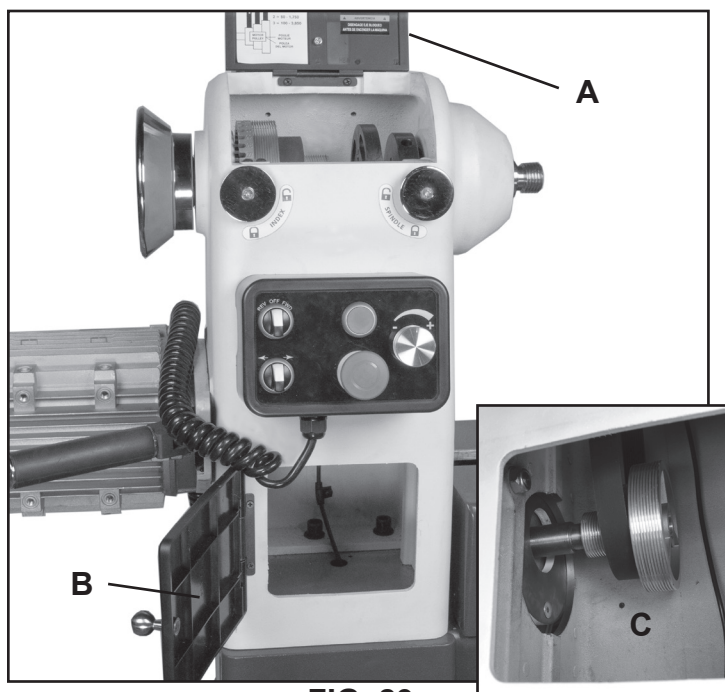

FIG. 29
2. Open the 2 Belt Doors to gain access to the belt and pulleys that are inside of the headstock. FIG. 29, A, B & C.